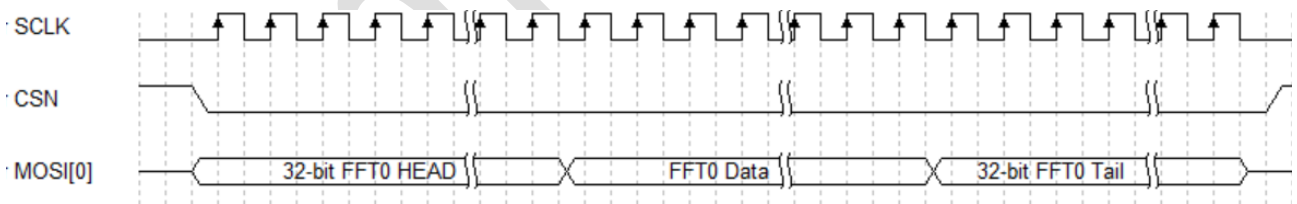

Figure 4-8 Range FFT Data Timing
Figure 4-8 and Table 4-12 show the timing and data format. **Pin27 (MOSI[0]) represents RX's data.** The head and tail occupy one double word (DW). The transfer is under MSB first sequence and the Doppler FFT data type is signed integer.